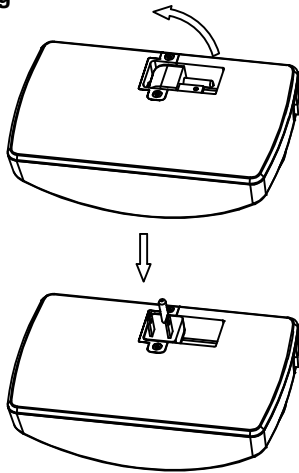

Fig 1
1. Rotate the power plug by fingers(see Fig 1).